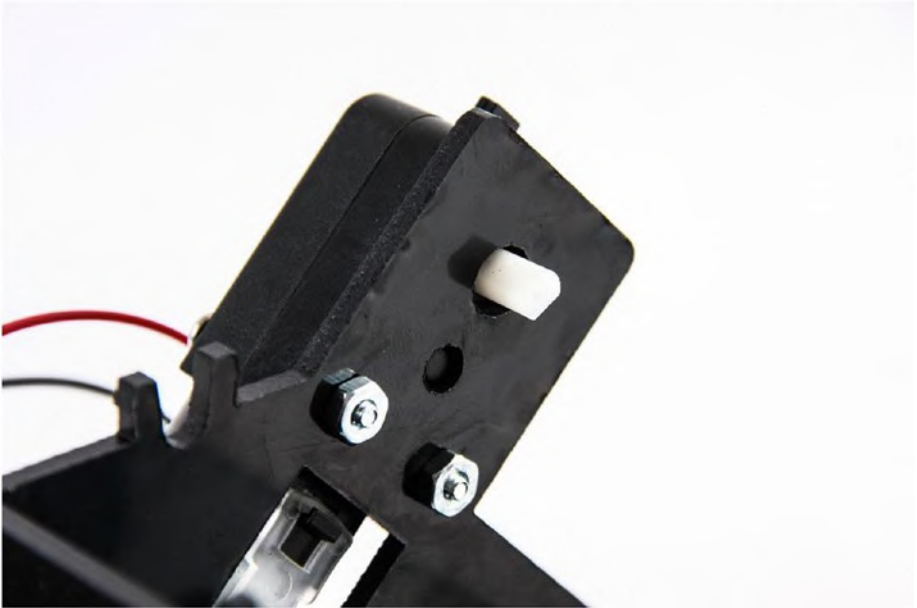

Figure 7-5. Mounted motor
2. Use two screws and nuts to hold the motor in place (see Figure 7-5). Although not included in the kit, some #4 split lock washers would be good to use here. If you don't have any, use Loctite Threadlocker Blue on the nuts. Without something to lock them into place, the nuts will rattle off.